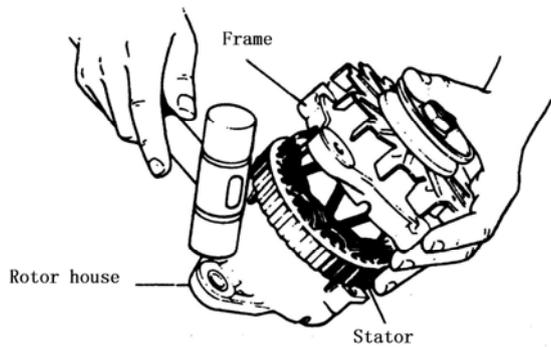

Fig.9-49
- (1) Remove 3 bolts fastening end frame to rotor housing; tap on rotor housing with a wooden mallet to separate stator and rotor housing from end frame and motor (Fig.9-49).